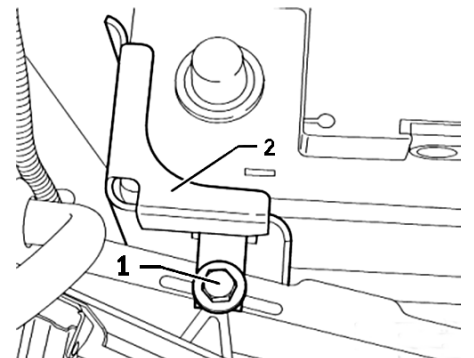

Fig. 9 Retainer bracket removal
15. Remove bolt (1) and retainer bracket (2), **Fig. 9**.
3. Install retainer bracket (2) and **torque** bolt (1) to 80 inch lbs., **Fig. 9**.